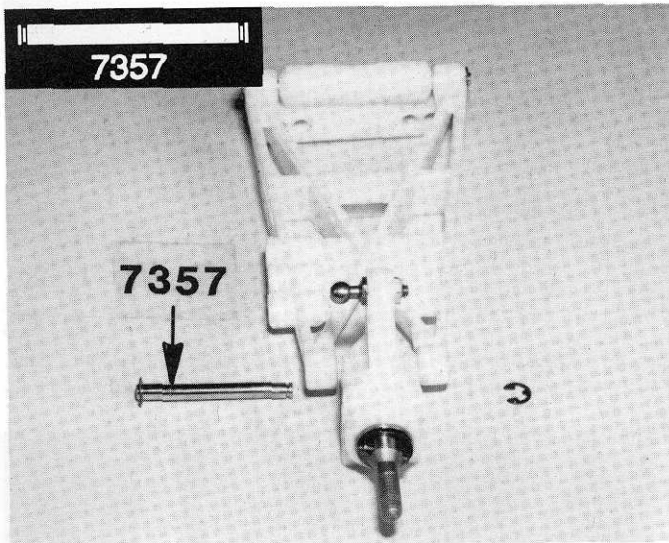

Fig. 94
□ **Figs. 94 & 95** Check the pin fit in the outer hole in the left hand A-arm with the #7357 pin. We want the hole tight in the hub carrier. Assemble the parts and secure with the #6299 E-clips. Do the right hand side.